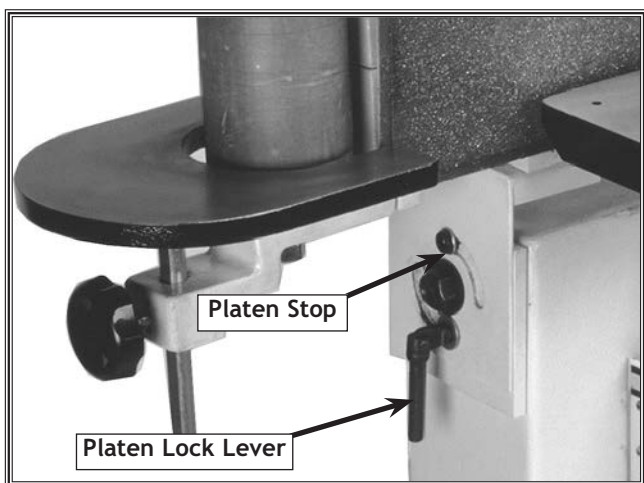

Figure 13. Tilt the platen so it is at 0° degrees vertical and the platen has bottomed against the stop.
2. Tilt the platen so it is at 0° degrees vertical and the platen has bottomed against the stop. See Figure 13.
3. Tighten the platen lock lever. See Figure 13.